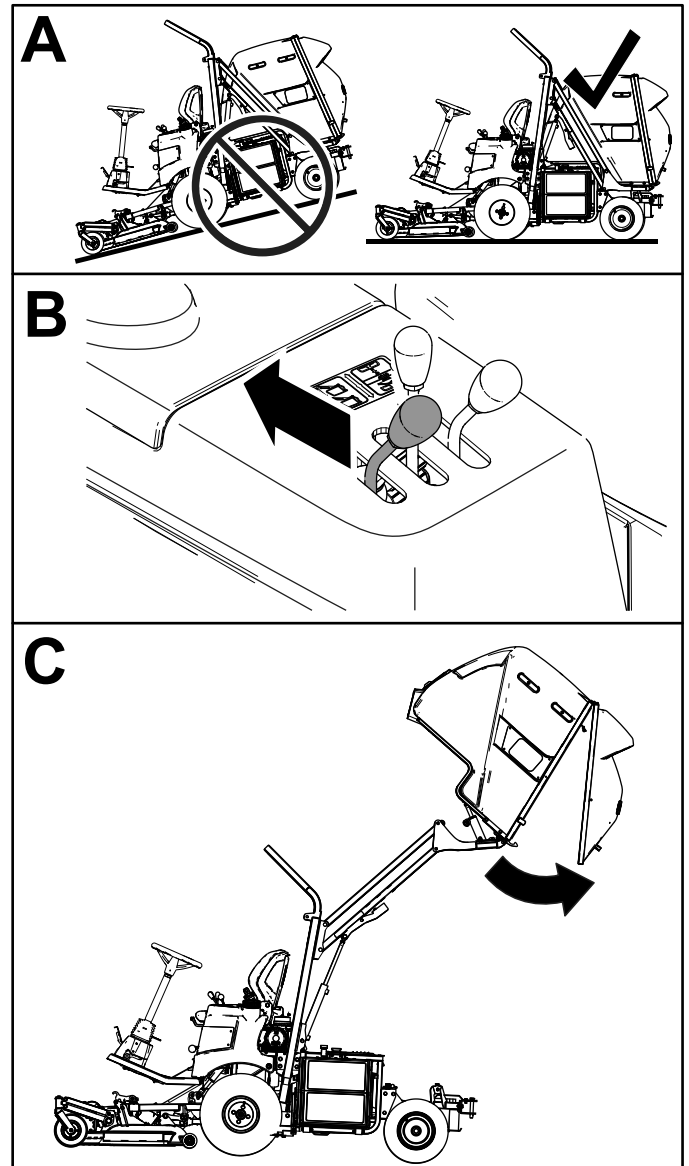

Figure 25
2. Move the hopper dump lever rearward to dump the clippings from the hopper (Figure 25).